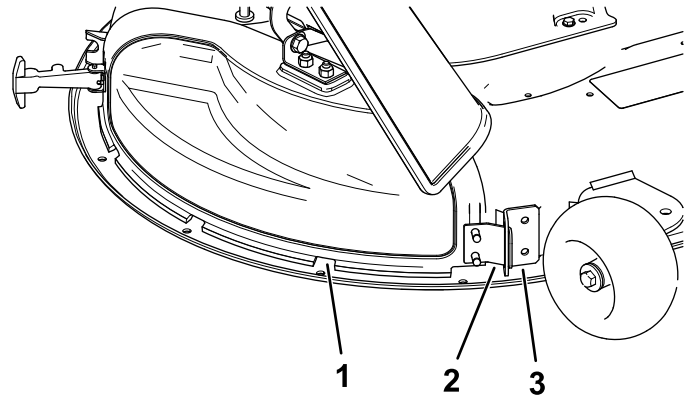

Figure 7
5. Angle the metal tab on the discharge cover out of the slot in the bracket welded to the mower deck (**Figure 7**).